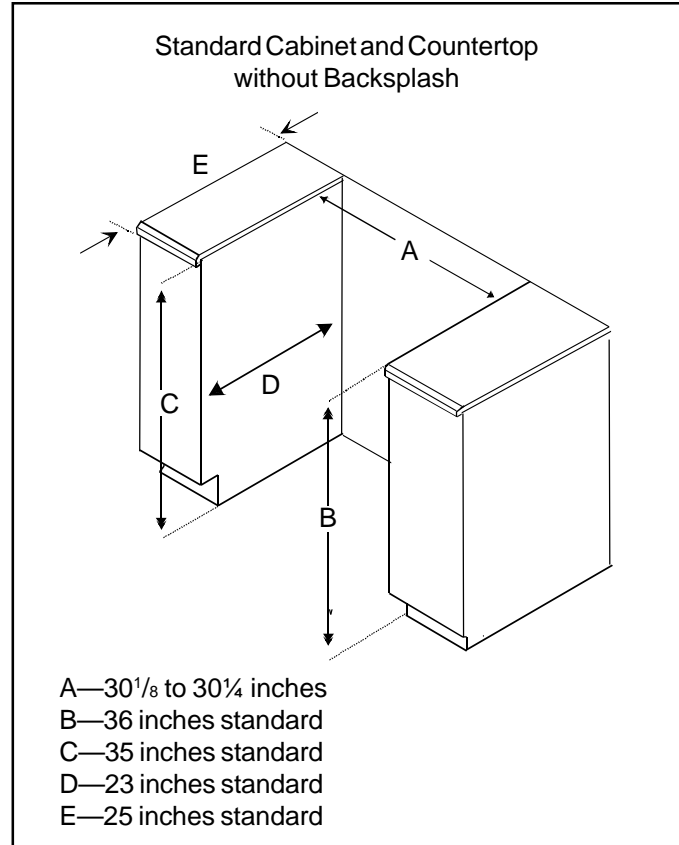

Figure 2
- Measure $1\frac{3}{4}$ inches when installed without backsplash. See Figure 2.